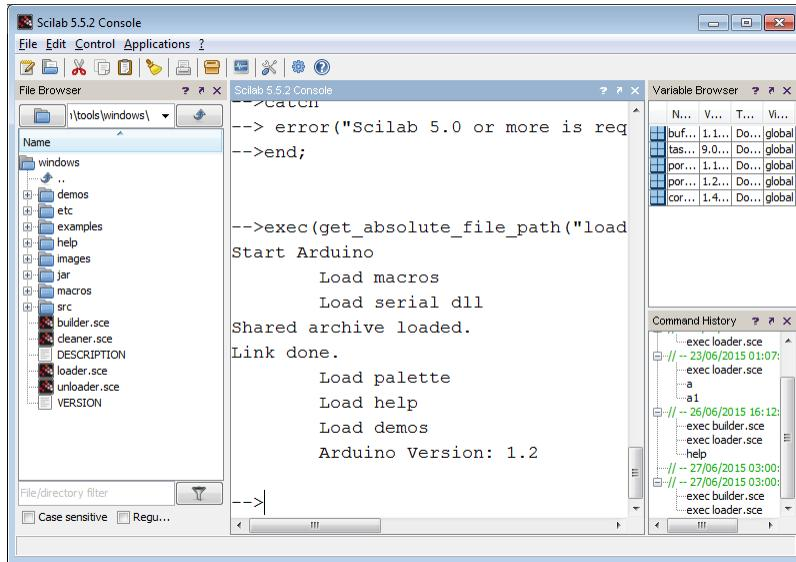

Figure 3.9: Output of loader.sce
6. Next, type the command, exec loader.sce - this will load the toolbox. This means all the new functions corresponding to the toolbox are loaded in the workspace. It will also make available new Xcos blocks, if any. The output of this command is as shown in Fig. 3.9. If you clear the workspace for any reason, you will have to execute this command once again³.